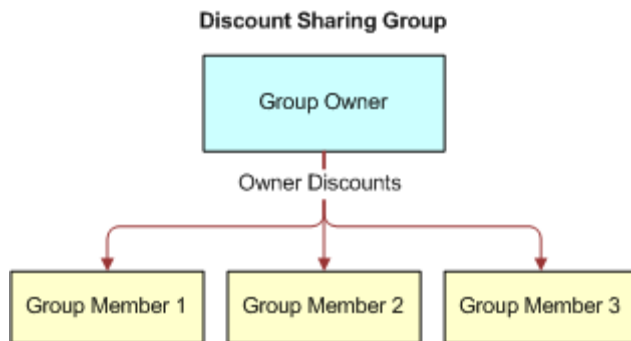

Figure 142. Discount Sharing Group
- **Discount sharing groups** provide a way to share a discount or resource (for example, free or discounted minutes) among multiple accounts or services. Discount sharing occurs when an account or service shares its discounts with the services of other accounts. The account that shares its discounts is the owner of a discount sharing group. Figure 142 illustrates a discount sharing group.